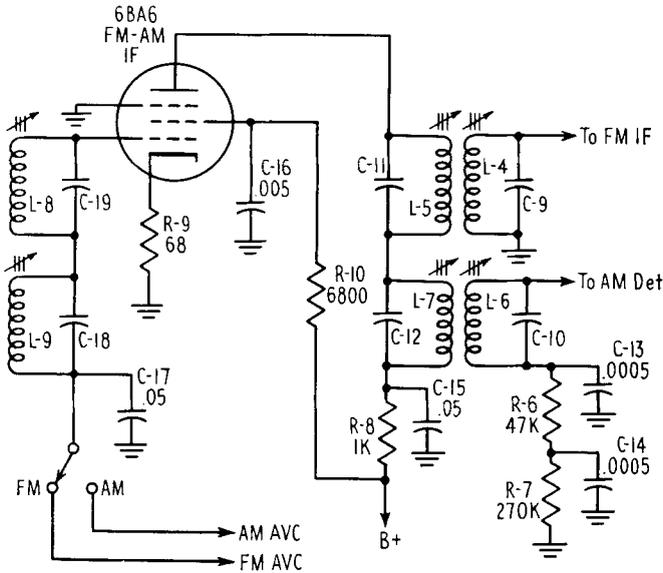

FIG. 25-11. A-M/F-M IF amplifier of the basic receiver.
**The A-M/F-M IF amplifier.** The A-M/F-M IF amplifier is similar in operation to the F-M IF amplifier. It differs in that provision is made for handling both intermediate frequencies (455 kc and 10.7 megacycles). The circuit is shown in Fig. 25-11. Note the series connections of the A-M and F-M intermediate-frequency coils  $L-8$ ,  $L-9$  and  $L-5$ ,  $L-7$ . The operation of this circuit was explained in Chap. 24.